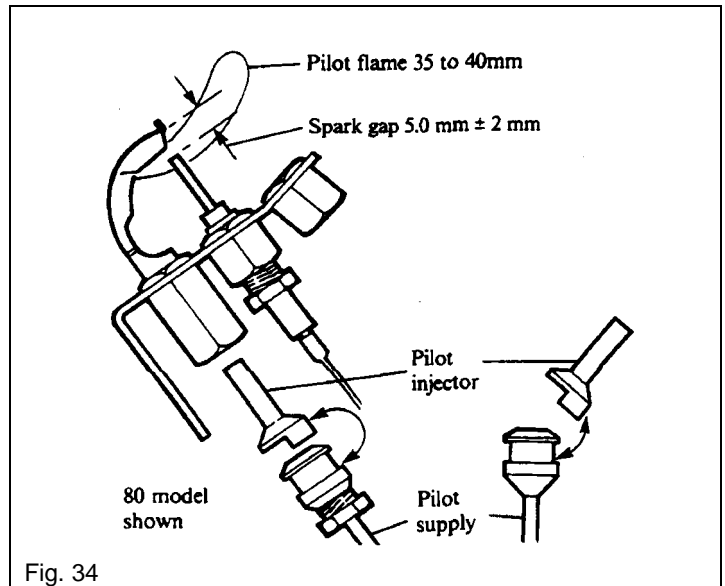

Fig. 34
11. Undo the securing nut and remove the spark electrode, see Fig. 34, from the pilot assembly.
Carefully remove and retain the pilot injector, see Fig. 34.
2. Locate the pilot injector over the end of the pilot supply, as shown in Fig. 34 and carefully position it in the pilot burner. Secure the pilot supply to the pilot assembly and gas valve.
3. Replace the spark electrode and check that the spark gap is $5.0 \text{ mm} \pm 2 \text{ mm}$, see Fig. 34.
Refer to Fig. 34.